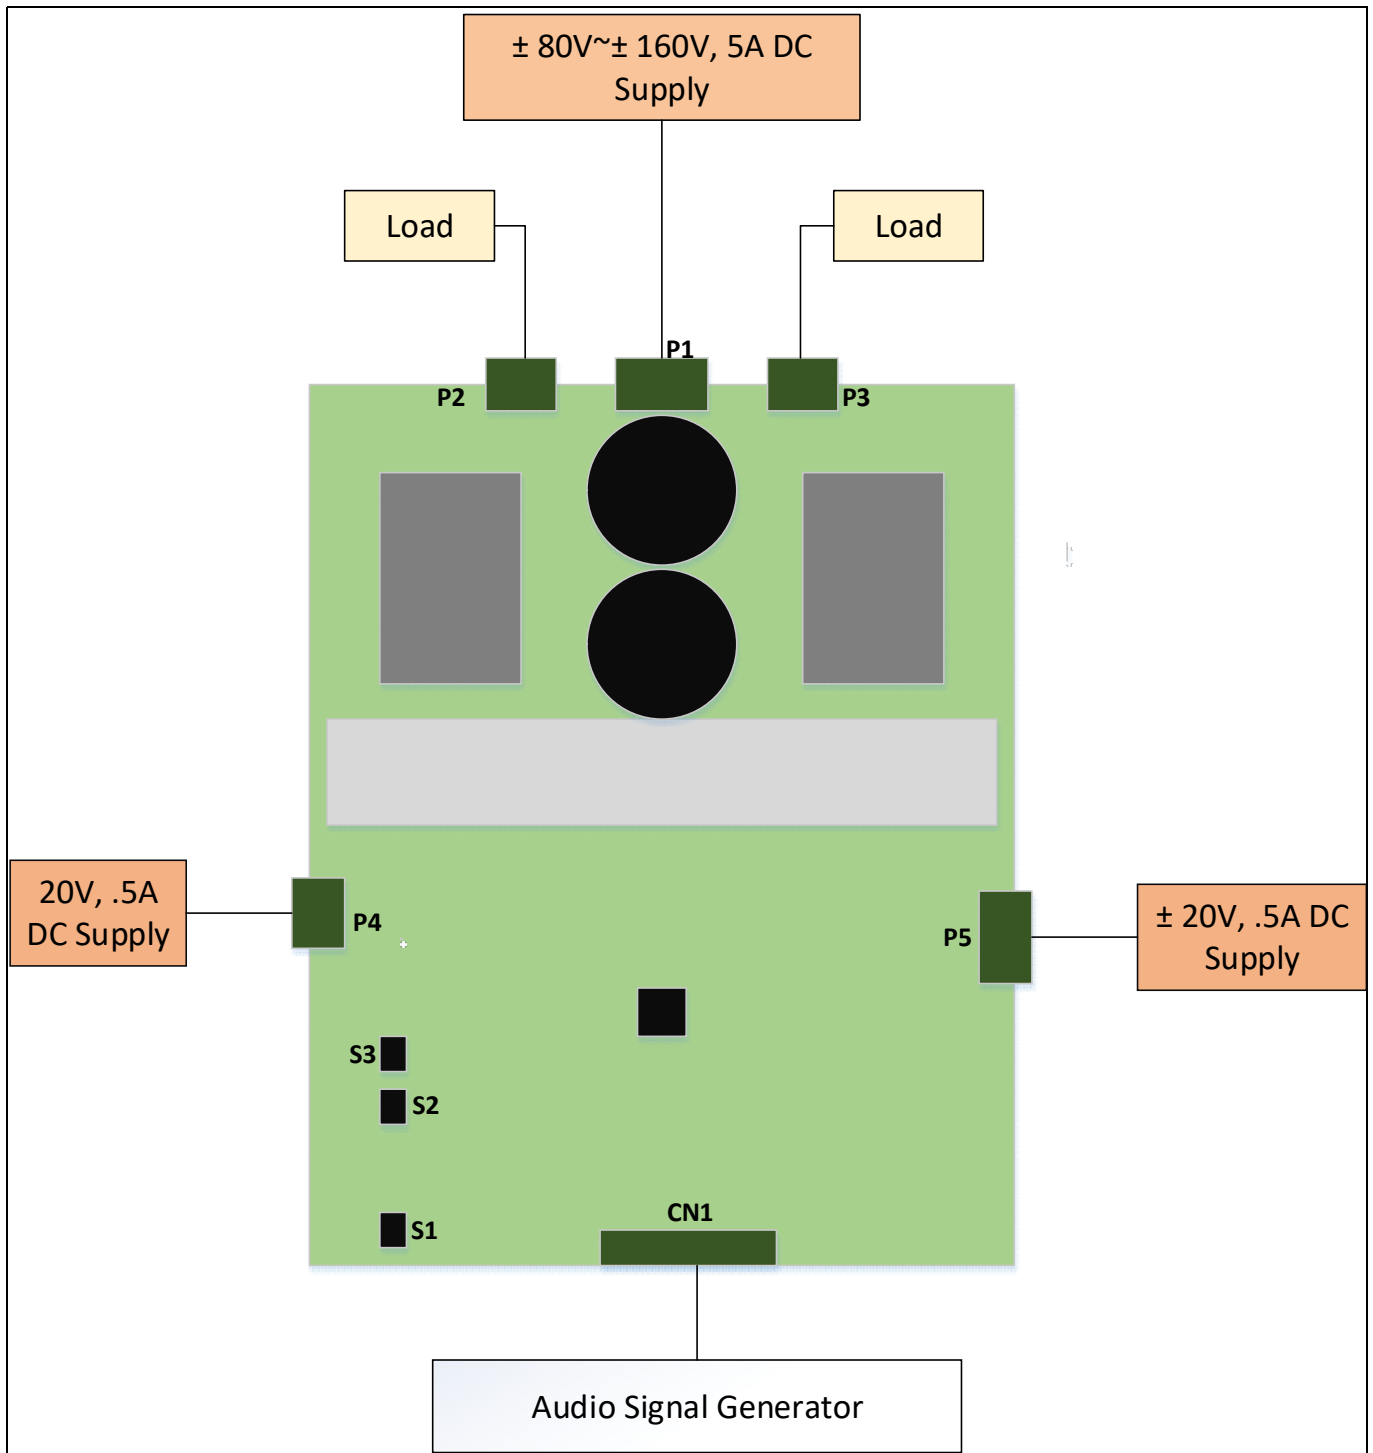

Figure 1 Typical test set-up
1. Connect 20 Ω - 250 W dummy loads to the output connectors (P2, P3 as shown on figure 1).
2. Connect the Audio Precision analyzer (AP) signal generator output to CN1. Use Balanced connection with $Z_{out} \leq 20 \Omega$.
3. Initially set the voltages of the dual power supplies to ± 160 V with current limits (CL) to 0.3 A. Set the second external power supplies to 20 V w/ CL of 60 mA, and third dual power supply to ± 20 V w/ CL of 60 mA.